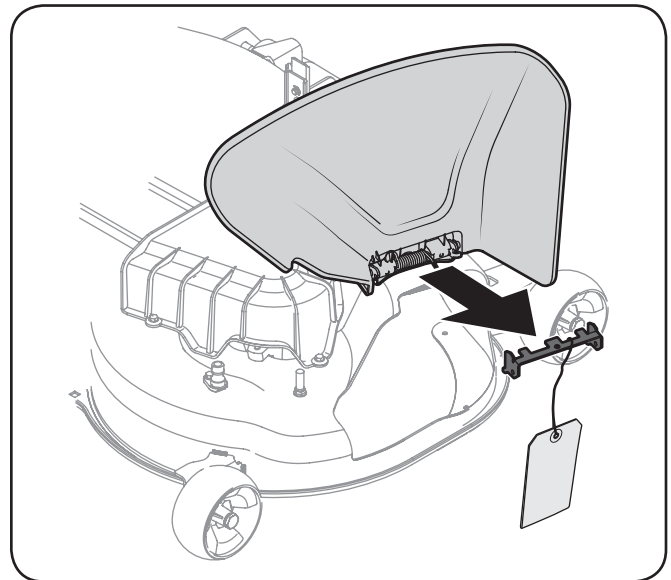

Figure 3-5
1. Check the mower deck for a shipping brace that may be holding the chute deflector upward for shipment. If the brace is present, it must be removed before operating the tractor. Holding the chute deflector fully upward, remove the shipping brace. Lower the chute deflector and discard the shipping brace. See Figure 3-5.